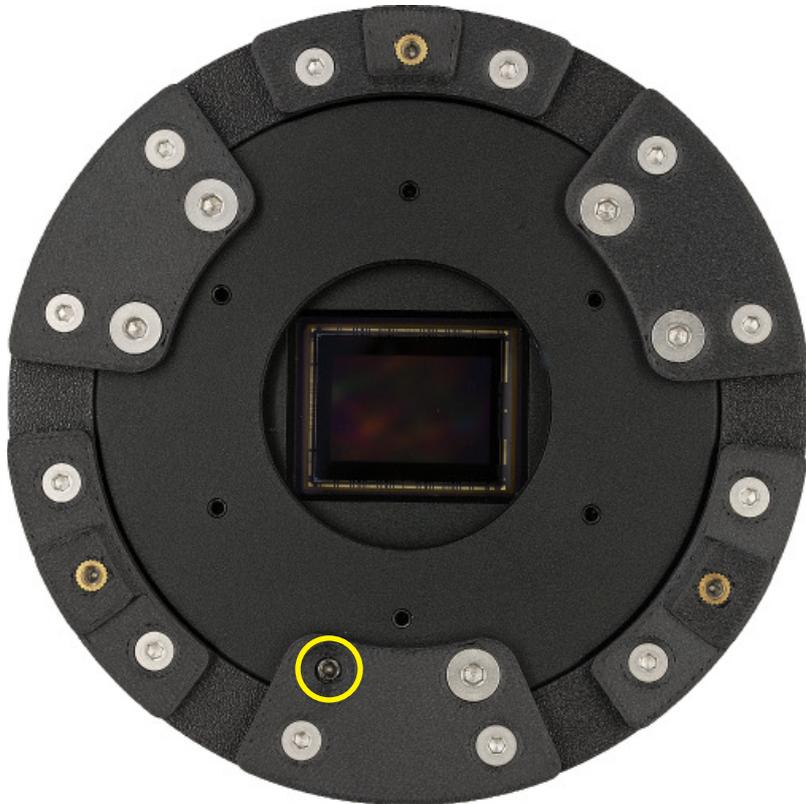

fig. 32
5. Carefully and slowly screw the headless screw into the black tilt plate. Stop as soon as you feel the first resistance indicating that the headless screw has passed through the tilt plate and touched the surface of the camera housing. (see fig. 32).